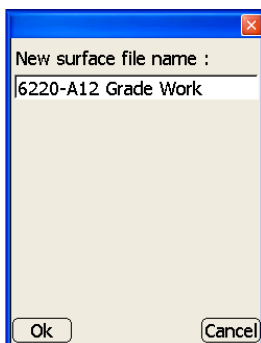

Figure 3-28. New Surface File Name Dialog Box
- Rename – opens the *New surface file name* dialog box (Figure 3-28) for changing the name of the selected file.
- Save As – opens the *New surface file name* dialog box (Figure 3-28) for saving the selected file as another file.